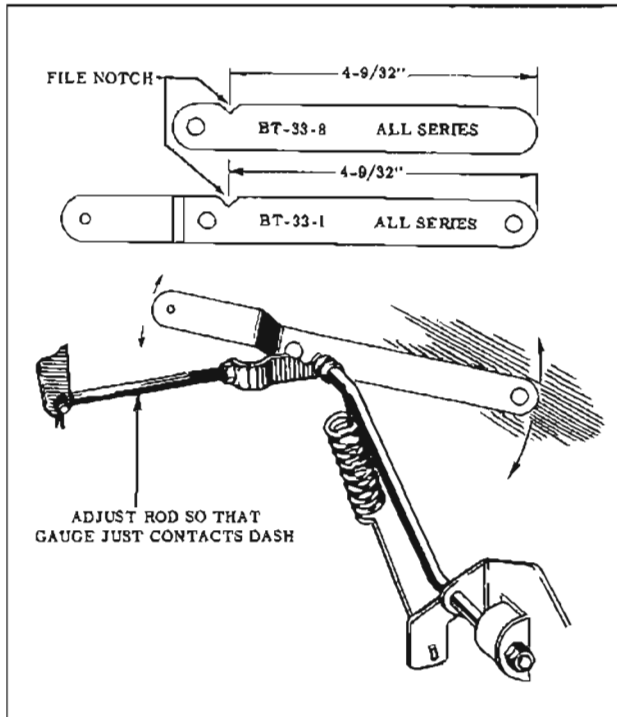

Fig. 7-5 Accelerator Pedal Adjustment
4. Adjust throttle rod to obtain the correct accelerator pedal height as indicated in Fig. 7-5.